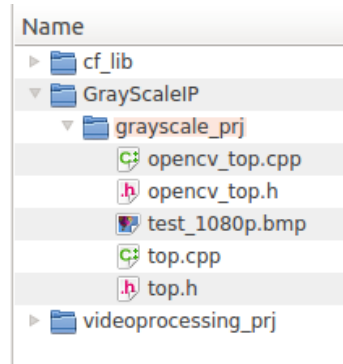

Figure 1.3.: Directory structure for LabD after copying necessary files.
4. Now copy the previously generated Pcore for gray scale filter, from path `<LabD>/GrayScaleIP/grayscale_prj/solution1/impl/pcores/*` to `<work dir>/LabD/ videoprocessing_prj/pcores/`. Now the directory structure for LabD should look like in Figure 1.3.